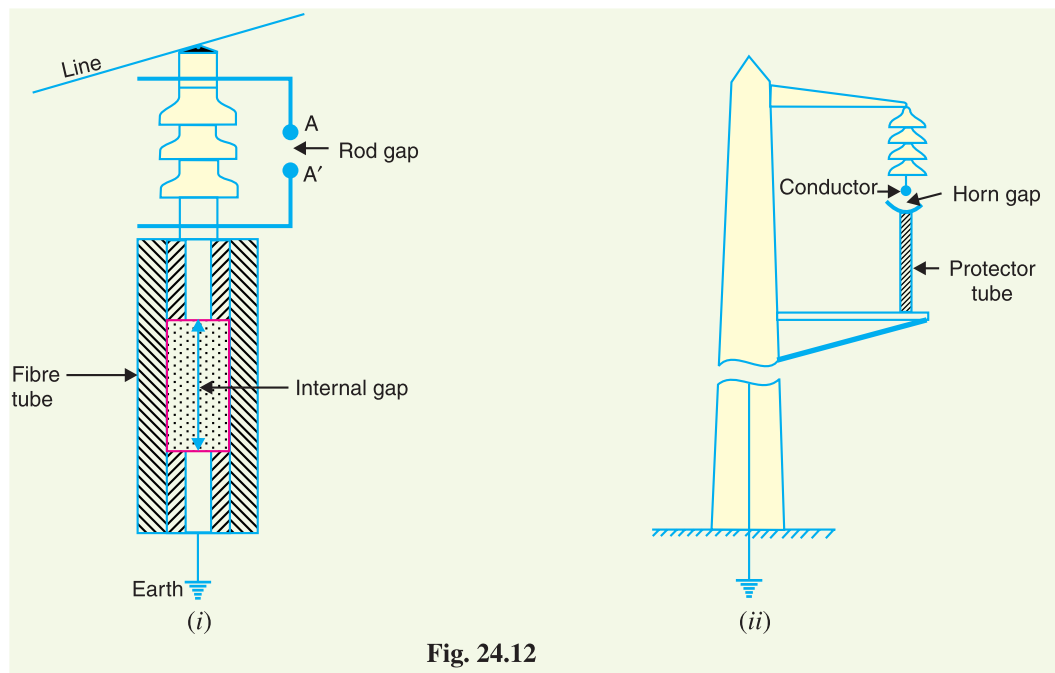

Fig. 24.12
**4. Expulsion type arrester.** This type of arrester is also called 'protector tube' and is commonly used on system operating at voltages upto 33 kV. Fig. 24.12 (i) shows the essential parts of an expulsion type lightning arrester. It essentially consists of a rod gap  $A A'$  in series with a second gap enclosed within the fibre tube. The gap in the fibre tube is formed by two electrodes. The upper electrode is connected to rod gap and the lower electrode to the earth. One expulsion arrester is placed under each line conductor. Fig. 24.12 (ii) shows the installation of expulsion arrester on an overhead line.